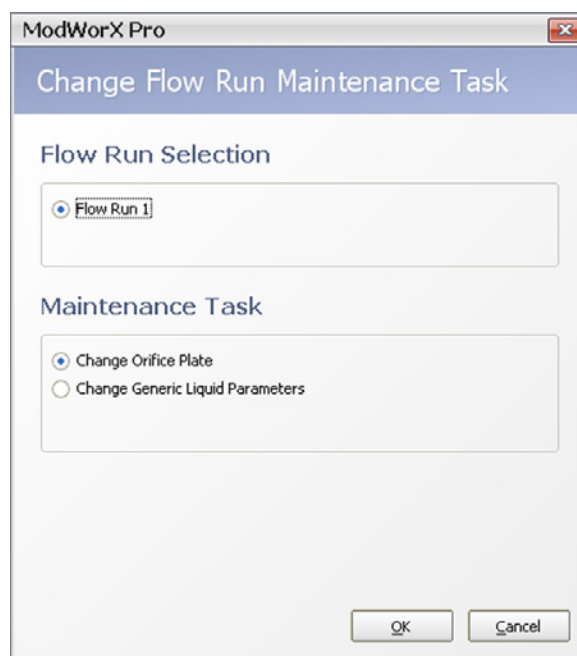

Figure C.4
1. If Change Generic Liquid Parameters is not displayed in the Maintenance Task field at the top of the Maintain Flow Run screen, click on **Change Task**. The Change Flow Run Maintenance Task dialog box will appear (Figure C.4).